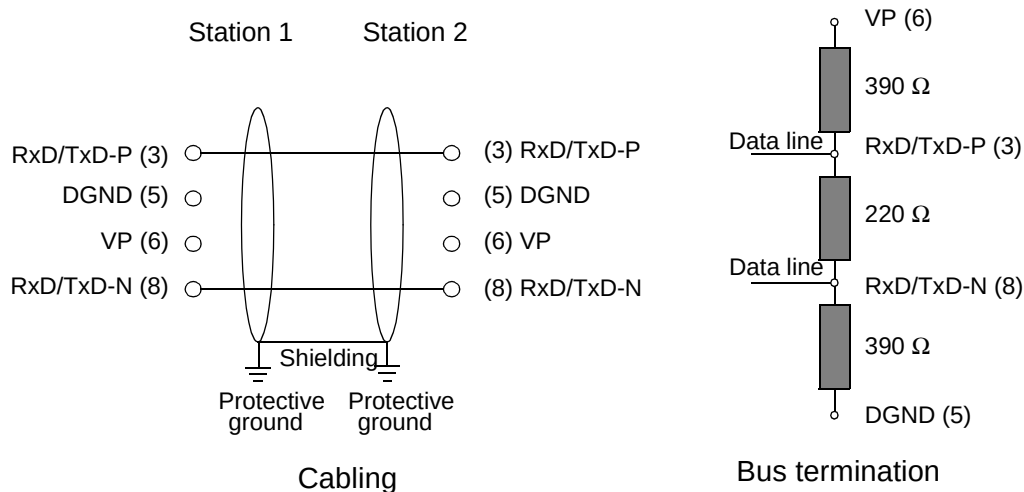

Figure 2-2. Cabling and Bus Termination
The bus is terminated by an active bus terminator at the beginning and end of each segment. See Figure 2-2 for the bus termination and cabling.
Figure 2-2 shows a network structure that consists of three bus segments. The bus line starts at a master (1) and goes to two slave stations and a repeater (2). The repeater connects the first segment to a second one, which in turn has one slave and a second repeater (3) connected. This last repeater then drives the third bus segment.
Use of a 9-pin D sub plug connector is preferred for PROFIBUS networks using RS 485 transmission technology. The pin assignment of the plug connector and the wiring are shown in Figure 2-2.